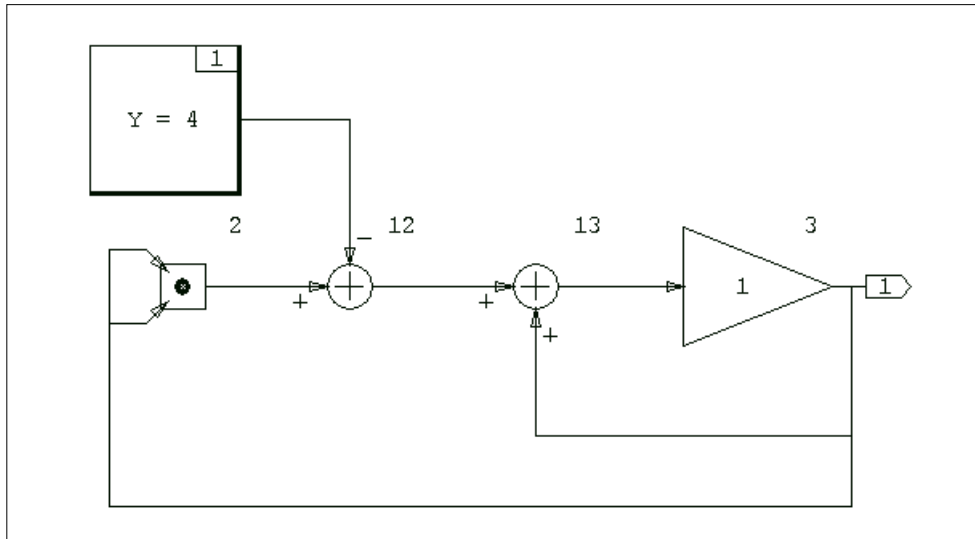

FIGURE 11-1 Algebraic Loop Solver of $x^2 = 4$
A model containing an algebraic loop is shown in Figure 11-1 on page 11-5. The effect of the feedback loop containing the gain block is twofold: (1) an implicit output is created after the summation block, and (2) the first input to the summer evaluates to zero.
Disadvantages of solving the equation $x^{**2} = 4$ using the model in Figure 11-1 on page 11-5 are: